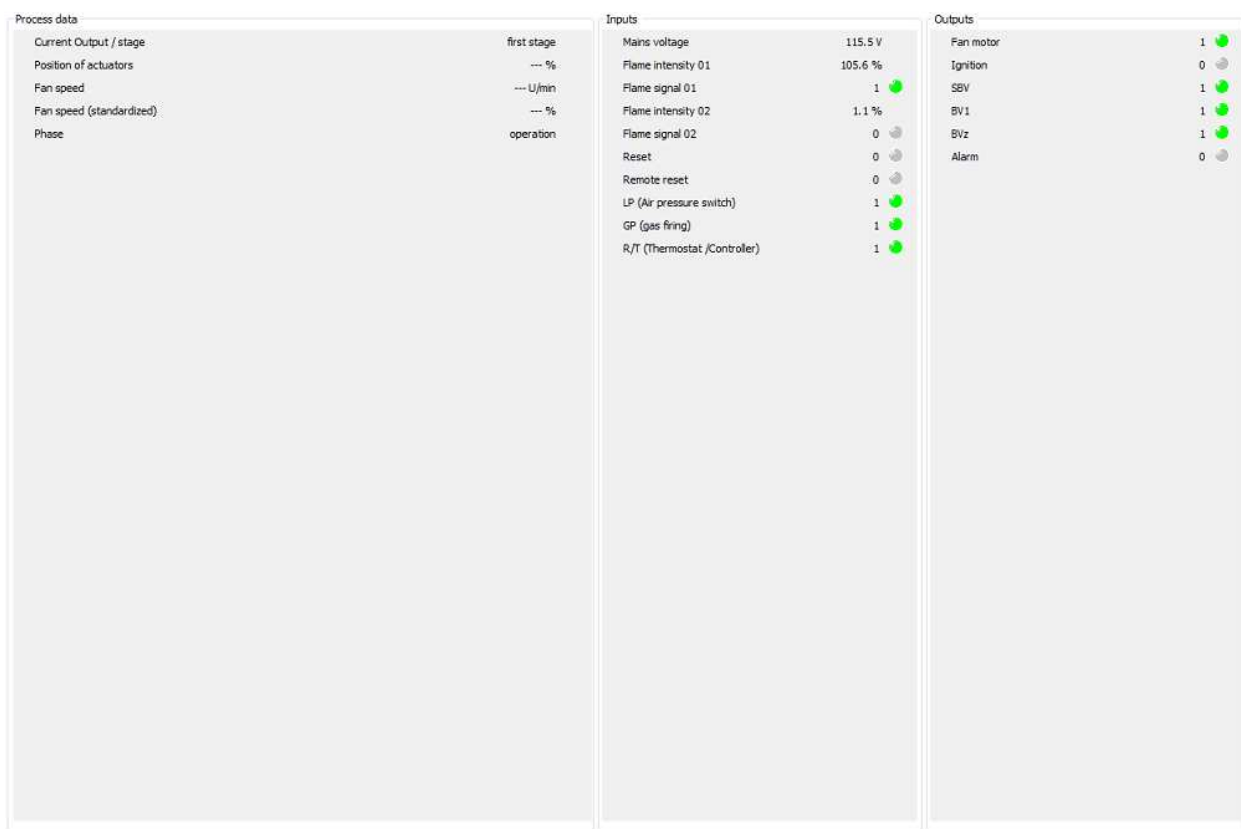

Figure 9-2: The ACS410 Status Screen
2. Once connected, click on the “Status” tab at the top of the screen. The status screen will appear detailing the operating state of the LME7. The status screen looks like Figure 9-2 below.